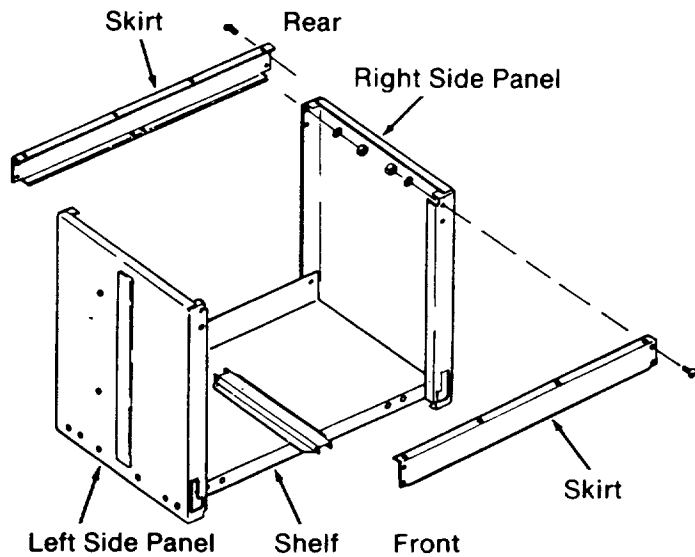

Fig. 33
7. Turn the *cabinet* right side up. Attach the *skirts* to the top of the *side panels*, with one on the front of the *cabinet* and the other on the back. (Figure 33)
8. Use eight truss head bolts, lockwashers, and hex nuts to hold the *skirts* in place. Handtighten. (Figure 33)